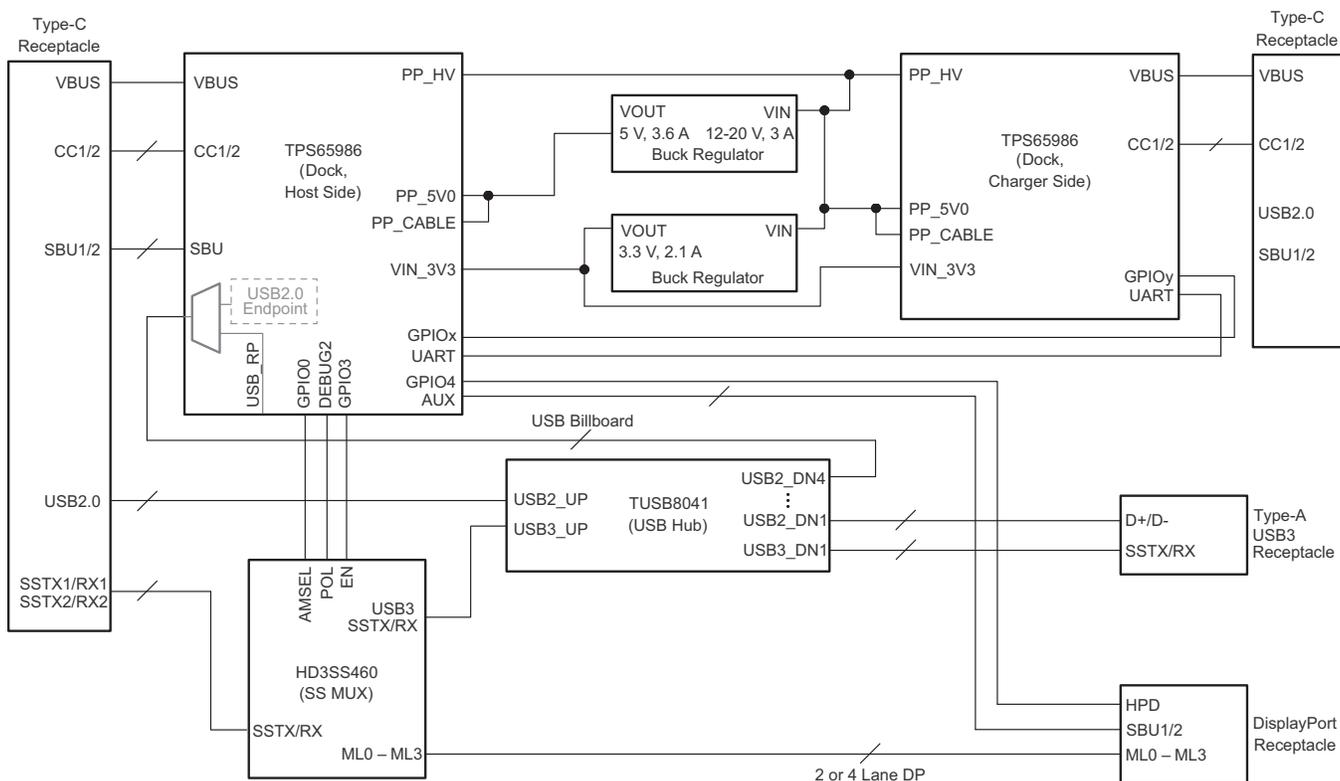

Figure 78. Type-C and PD Dock Application
The TPS65986 controls two separate power paths making it a flexible option for Type-C and PD dock application that simultaneously charges a USB PD DisplayPort video source (for example, a notebook computer). The dock application of the TPS65986, shown in Figure 78, uses a common node for PP_HV of both TPS65986 devices and uses a GPIO to sense when a charger is present on the charger-side TPS65986. The host-side TPS65986 will automatically enable a Source PDO to charge the notebook connected at the Type-C port and initiate a Power Role Swap PD message if the laptop was connected to the dock first. When the notebook is connected first and the charger is not present, the dock will boot from VBUS in No Battery mode and provide power to VIN_3V3, the Type-A USB3 receptacle, the video receptacle, and support circuitry. Refer to Figure 79 for a timing diagram showing the dock behavior when it is bus-powered from the host-side and Figure 80 for a timing diagram when the dock is line-powered from the charger-side. In the timing diagrams, the host -side is referred to as the Left (L) side and the charger-side is referred to as the Right (R) side, the same orientation shown in the Figure 78 block diagram. The video receptacle can be DisplayPort, HDMI, or VGA although only DisplayPort is shown in Figure 78. The dock application uses a Type-C receptacle and an HD3SS460 SuperSpeed mux which is controlled by the host-side TPS65986. The CC1/2 pins of the TPS65986 will detect cable orientation and automatically configure the HD3SS460 SuperSpeed signal pairs for 2-lanes of USB3 data and 2-lanes of DisplayPort video or 4-lanes of DisplayPort video depending on the Alternate Mode configured by the host.